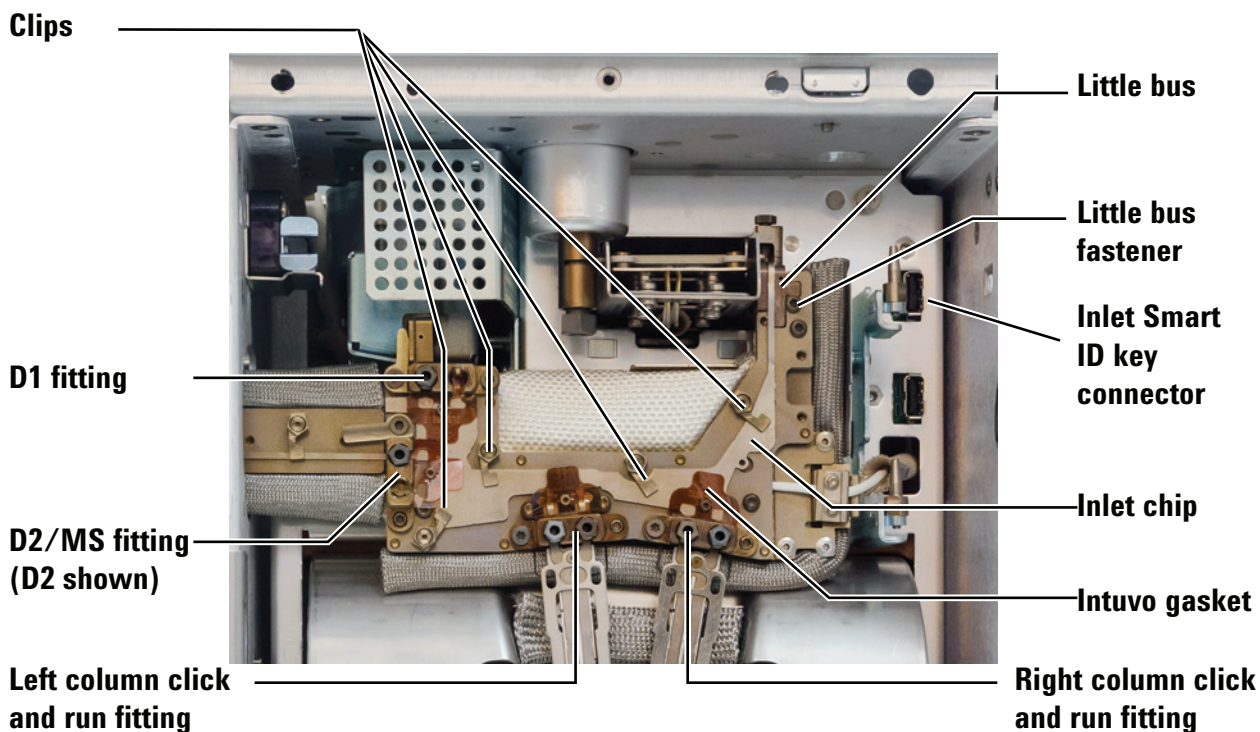

Figure 14 Intuvo bus components with inlet splitter accessory installed (split/splitless inlet shown)
Figure 14 shows the Intuvo major bus components.
- 7 Use the Intuvo torque driver to open the clips that secure the inlet splitter chip to the bus. See Figure 14.